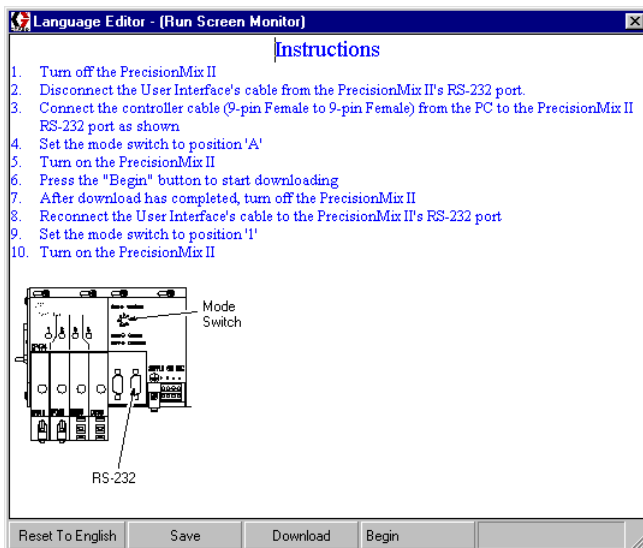

Fig. 13.66
- An Instructions window to Download Language File Program will appear. See Fig. 13.66. If you are familiar with the update process, you can follow the steps in the window. The following instructions provide more detailed information.
- Press the BEGIN button in the Instruction screen to begin downloading the language file to the Run Screen Monitor. See Fig. 13.66.